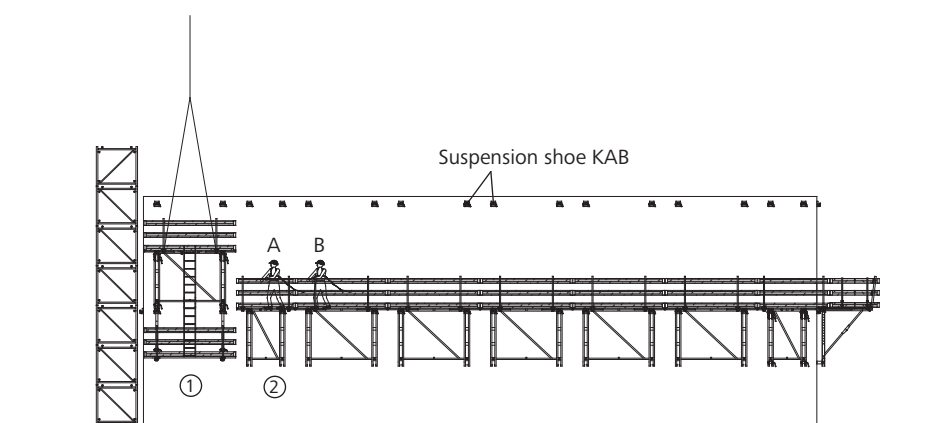

Fig. 28.2
6. The crane rope is attached to folding working platform KAB with access hatch and secondary platform (1). Persons A and B leave the attached platform (1). Platform (1) is lifted by crane to the next level (Fig. 28.2) and suspended from the prepared suspension shoes.